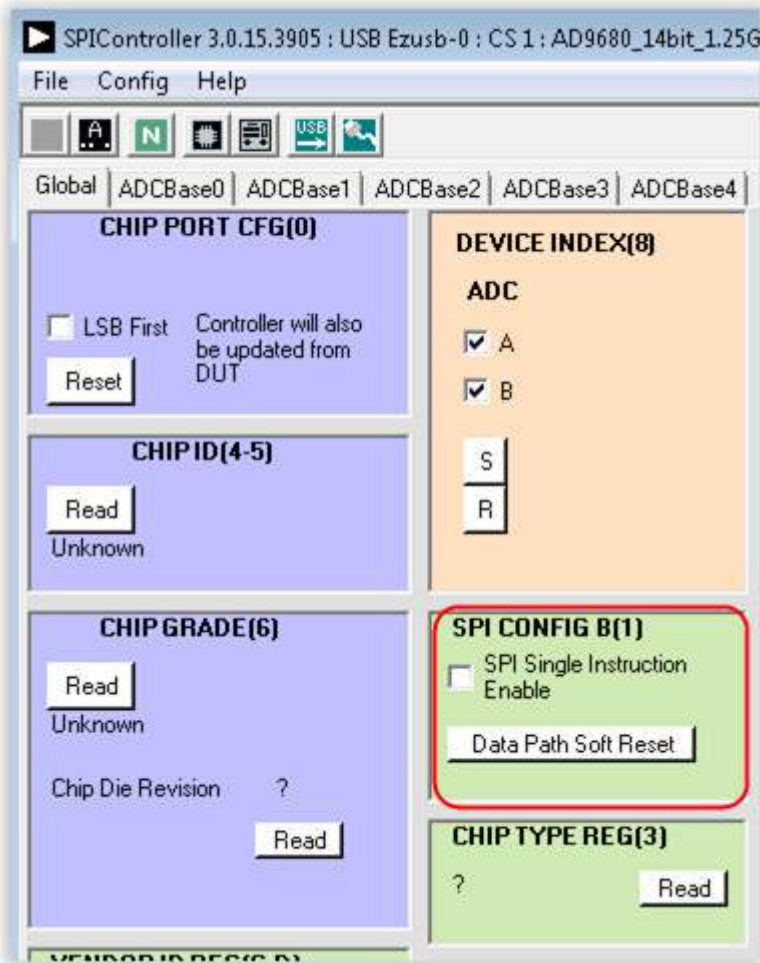

Figure 15. Issuing a data path soft reset
- Issue a **Data Path Soft Reset** through SPIController **Global** tab as shown in Figure 15